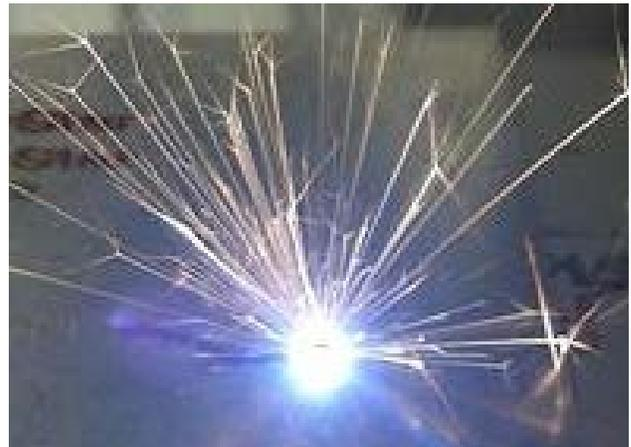

Figure 31
7. Check to make sure the laser beam is in focus (see **Figure 31 on page 63**).